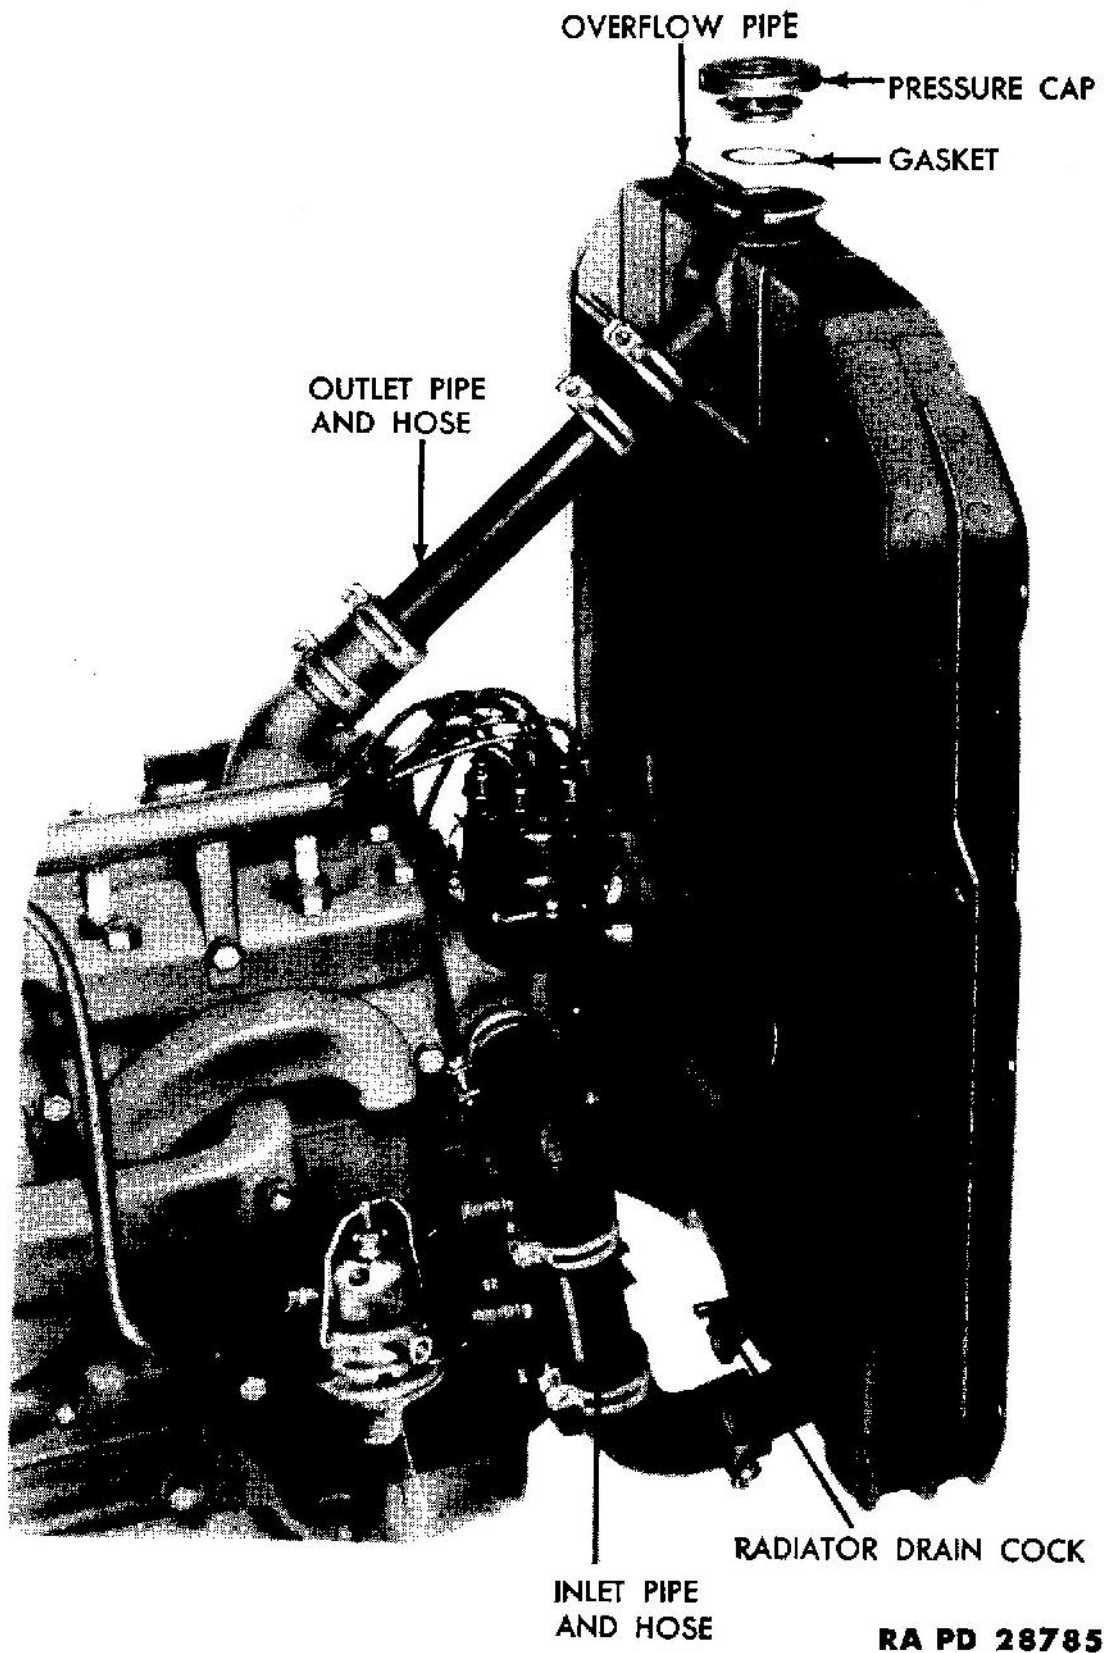

Figure 30 — Radiator and Pressure Cap
b. **Cooling System Seal.** The entire cooling system is sealed by a pressure filler cap (fig. 30). The system, when warm, builds up a pressure which results in raising the boiling point of the coolant, thus reducing the loss of water or antifreeze. The filler cap gasket may be lost when filling the system. Loss or damage of this gasket prevents a proper seal and will cause loss of coolant.
d. **Drains.** A drain cock is provided at the lower right corner of the radiator (fig. 30). A drain cock is also provided on the left side of the engine (fig. 11). To completely drain the cooling system, both the radiator and engine block drain cocks must be open.
b. **Removal.** Raise the hood. Open the radiator drain cock (fig. 30) and drain the radiator. Remove the fan (par. 76 b). Loosen the clamps on the hose and pipe running from the radiator to the water pump. Remove the hose and pipe. Loosen the clamps on the hose and pipe running from the radiator to the water outlet connection on the engine and remove the hose and pipe. Remove the three cap screws on each side of the radiator which hold the radiator to the support bracket. Remove the radiator. To install the radiator, reverse the sequence of the steps of the removal procedure.